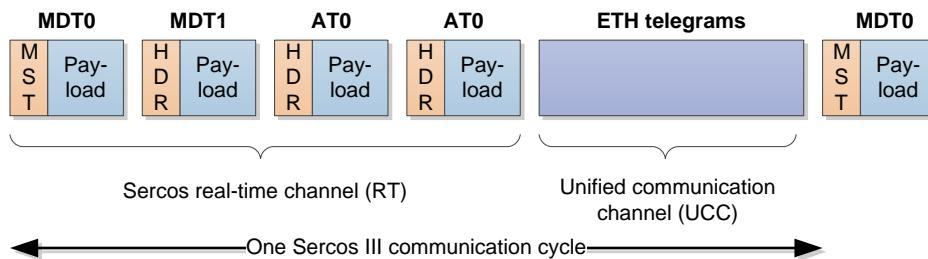

Figure 2. Sercos III Communication Cycle
Sercos III combines a deterministic real-time-Ethernet channel (RT) and a best-effort-Ethernet channel (unified communication channel (UCC)) on the same Ethernet cable using time multiplexing (see Figure 2). During the time slot of the Sercos III real-time channel, only the master is allowed to start the transmission of a Sercos III Ethernet frame. The frame is received by all slaves and is being processed on-the-fly, meaning each slave that receives the Sercos III Ethernet frame processes the bytes from the byte-stream without changing the overall frame length. At the end of the frame, the slave recalculates and replaces the frame check sequence (FCS) in case the content has been modified.